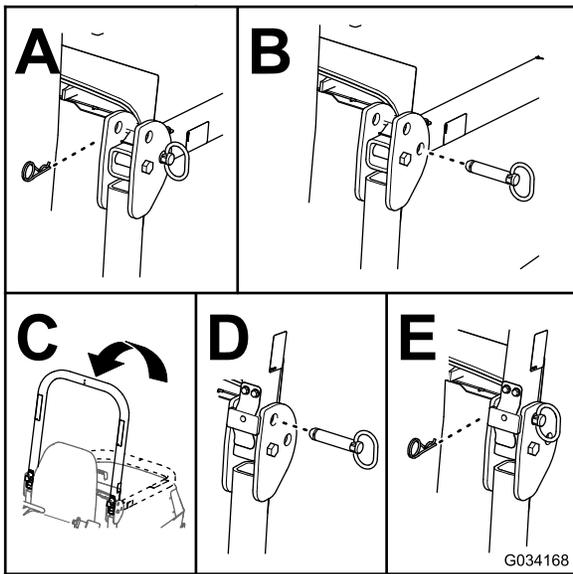

Figure 35
2. Remove the cotter pins and pins from the roll bar (Figure 35).
3. Raise the roll bar and secure it in place with the pins and cotter pins (Figure 35).